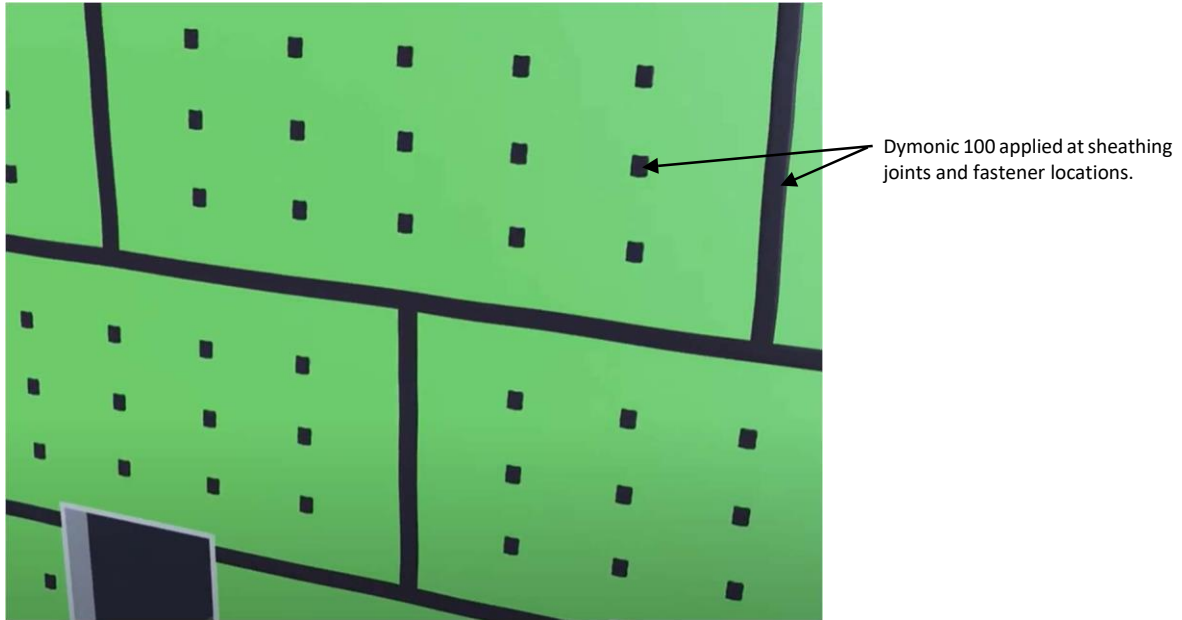

Fig. 21
B. Tremco Dymonic 100 Option – Figure 21.